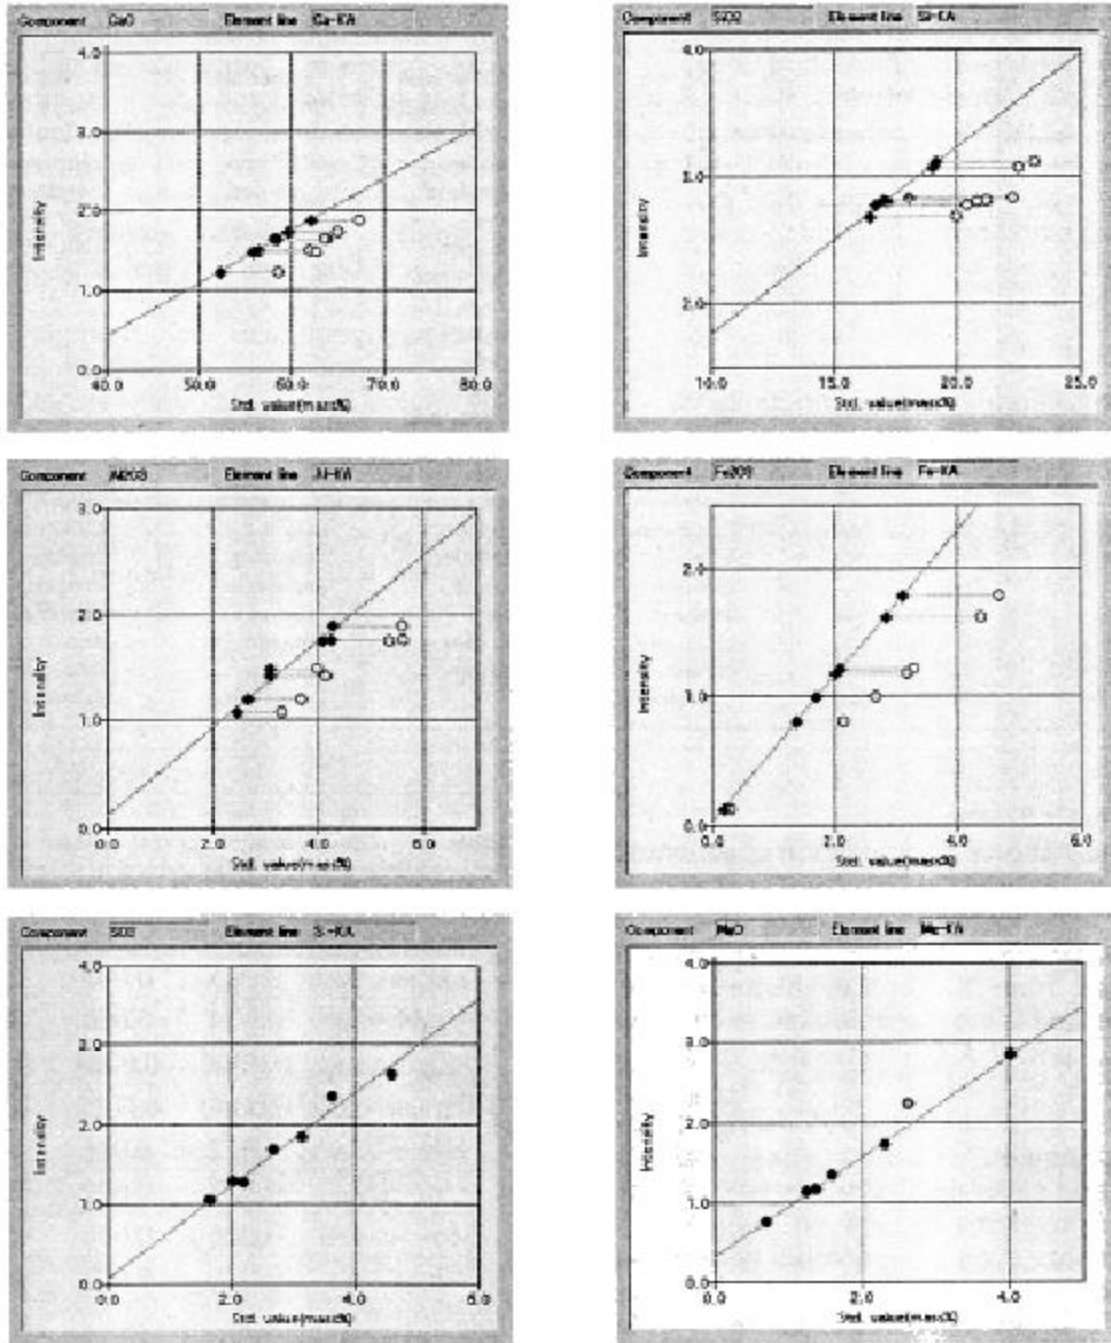

Fig. 2. Calibration curve for Portland Cement.
- (1) Table 1 shows a comparison of calibration curve accuracy with other analyzers for low alloy steel. The data generated by the ZSXmini is more accurate than that produced from the energy dispersive systems and is even comparable to data from a full power X-ray dispersive spectrometer.
- (2) Fig. 2 shows a calibration curve for Portland cement. A good calibration curve can be obtained over the element range extending to light elements even for a sample with a complex matrix.